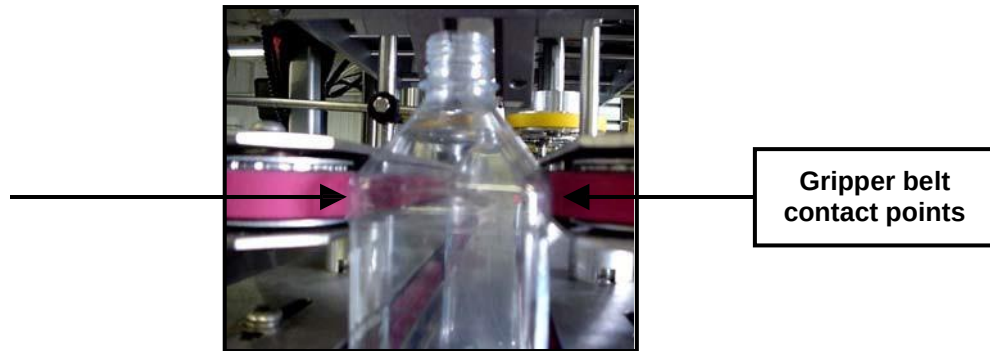

Figure 18. PROPER GRIPPER BELT CONTACT WITH BOTTLE.
- 6c.** Set the gripper belts to contact and support the stable part of the bottle. Refer to Figure 18.